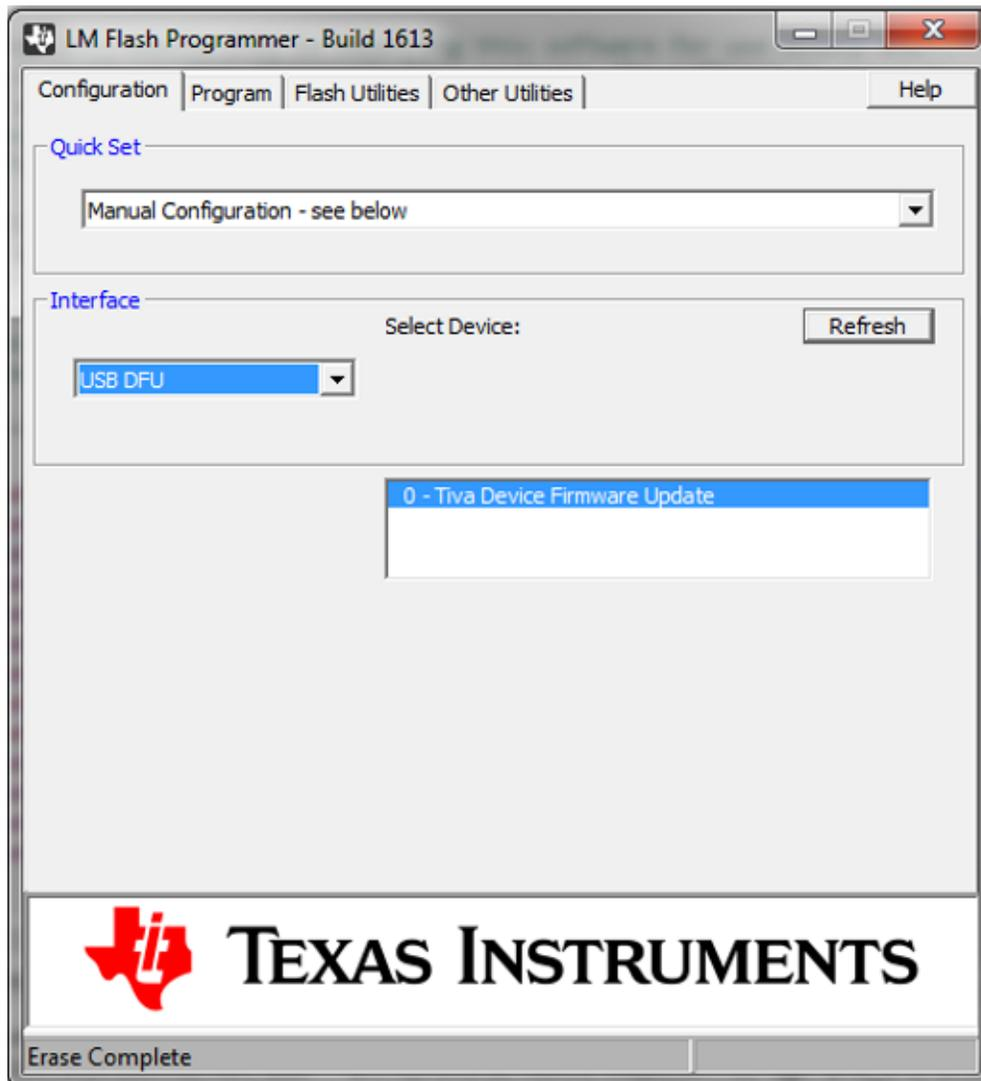

Figure 18. Selecting USB Interface for Application Download
6. Launch the LMFlashProgrammer Application. In the *Configuration* tab, select *USB DFU* in the *Interface* drop-down menu (see Figure 18)